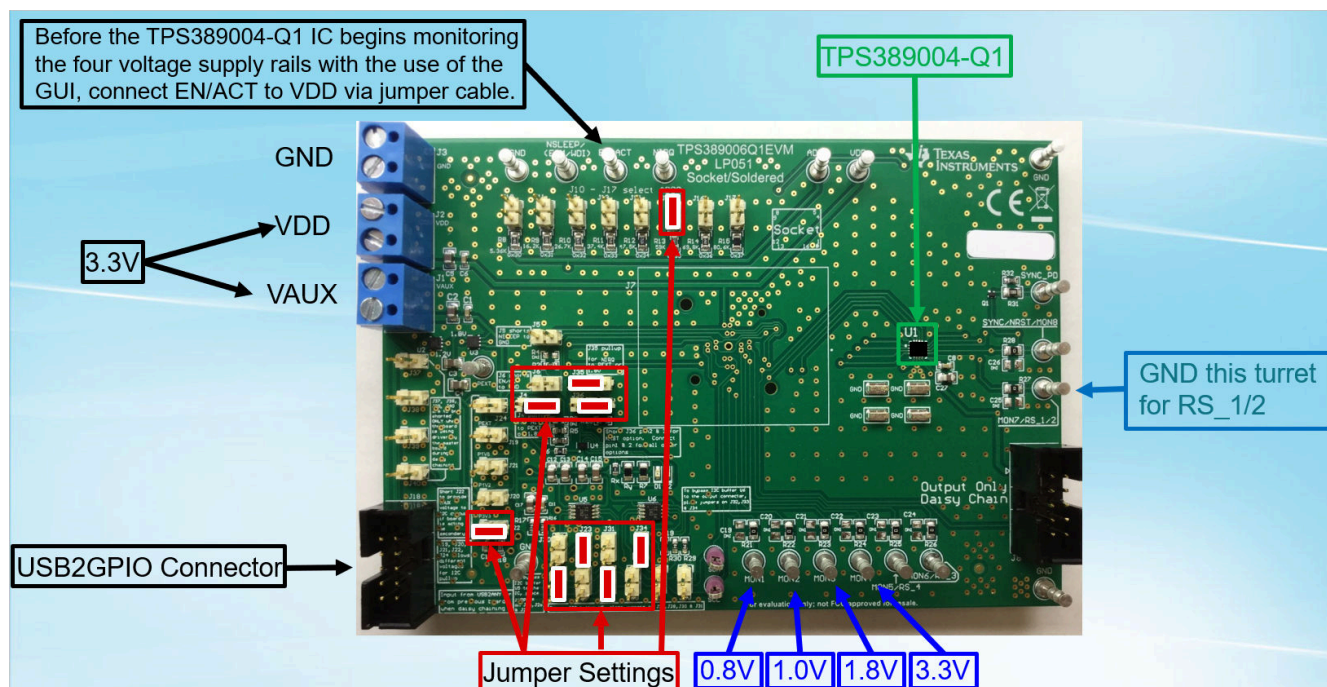

Figure 4-16. TPS389006Q1EVM Monitoring Four (4) Voltage Supply Rails
The example below shows a TPS389004-Q1 monitoring four (4) voltage supply rails on the TPS389006Q1EVM. Please follow the steps in Section 4.1.1 and Section 4.1.2 before evaluating the TPS389004-Q1. In this example, the TPS389006Q1EVM will be setup to monitor several power supply rails after the ACT pin is asserted. Below, Figure 4-16 shows how the TPS389006Q1EVM was setup to monitor four (4) voltage supply rails.
3. Ensure the jumper settings, highlighted in red in Figure 4-16, are set on the TPS389006Q1EVM.
6. Final Connections should look similar to Figure 4-16.